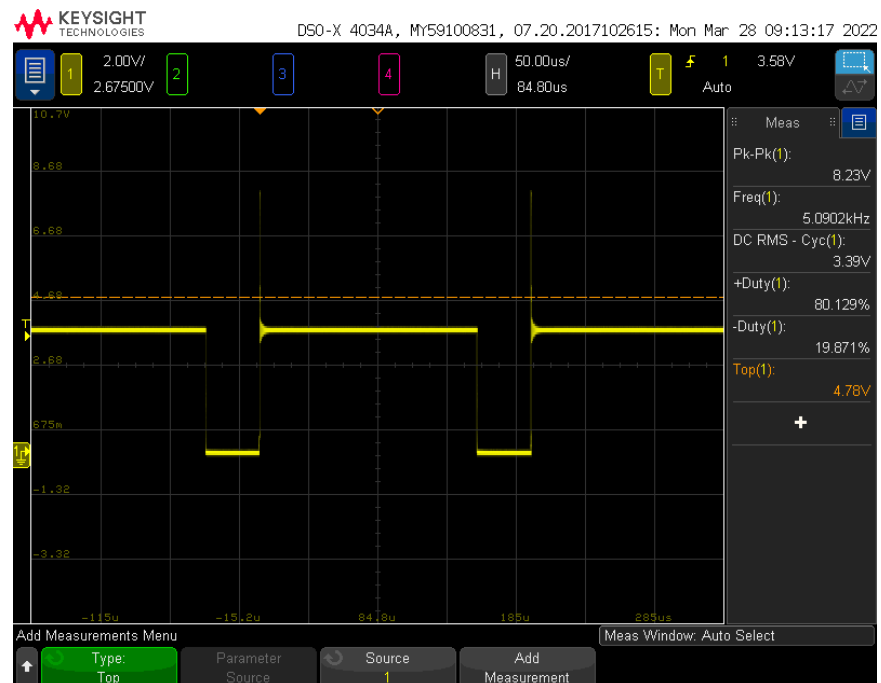

Figure 3: Higher pot value than in Fig 1 and 2; y axis is voltage (V), x axis is time (μ s).
– 4 points Explain how the circuit in Figure 3 functions.
This relationship continues with the pot value in *Figure 3*; as the potentiometer value increased, the duty cycle decreased to 80.13% with a frequency of 5.09 kHz.